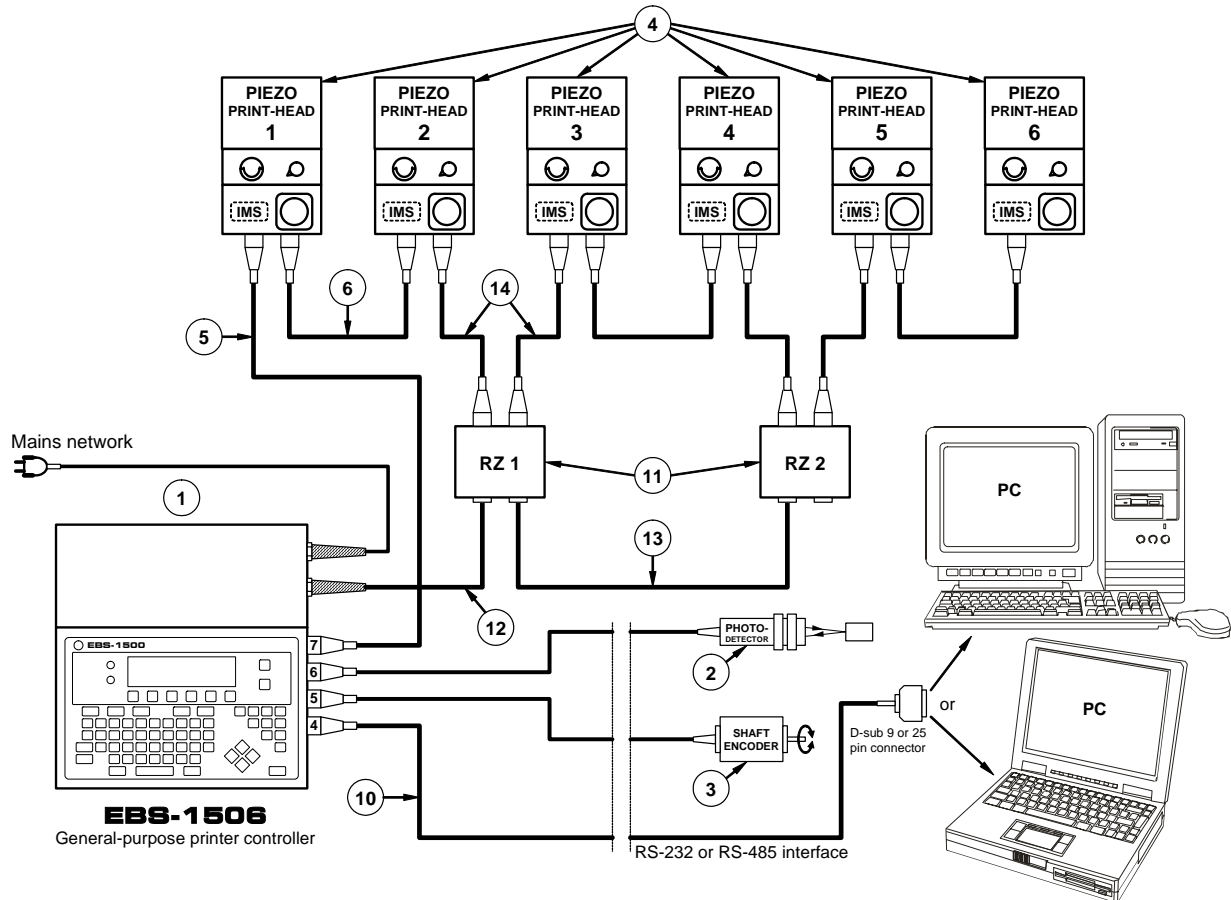

Fig. 4.2.8. Connection diagram for a printing system with six piezoceramic print-heads
- The six-head printing system shown in **Fig. 4.2.8** is an illustration of how to connect the system elements. The system will work properly only when the requirements presented in section **4.1 Restrictions on Printing System Configuration** are satisfied and when it is designed in compliance with the guidelines given in section **4.7 Rules for designing a multi-head printing system**.
- The system shown in **Fig. 4.2.8** can work properly only with an **EBS-1506** controller equipped with a **PGDU4** card (for more details refer to section **4.1.4**)!!! Otherwise the controller may get damaged!!!